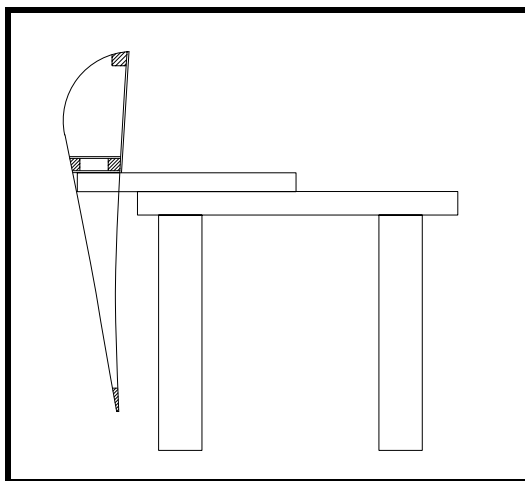

Figure 21
- ❑ Turn the aileron/flap assembly around so that its lower surface faces toward the jig table as shown in Figure 21. Clamp in place and check the alignment. It is particularly important that you make sure that the aileron/flap assembly is not twisted since in the next few steps you will install the upper leading edge skins.